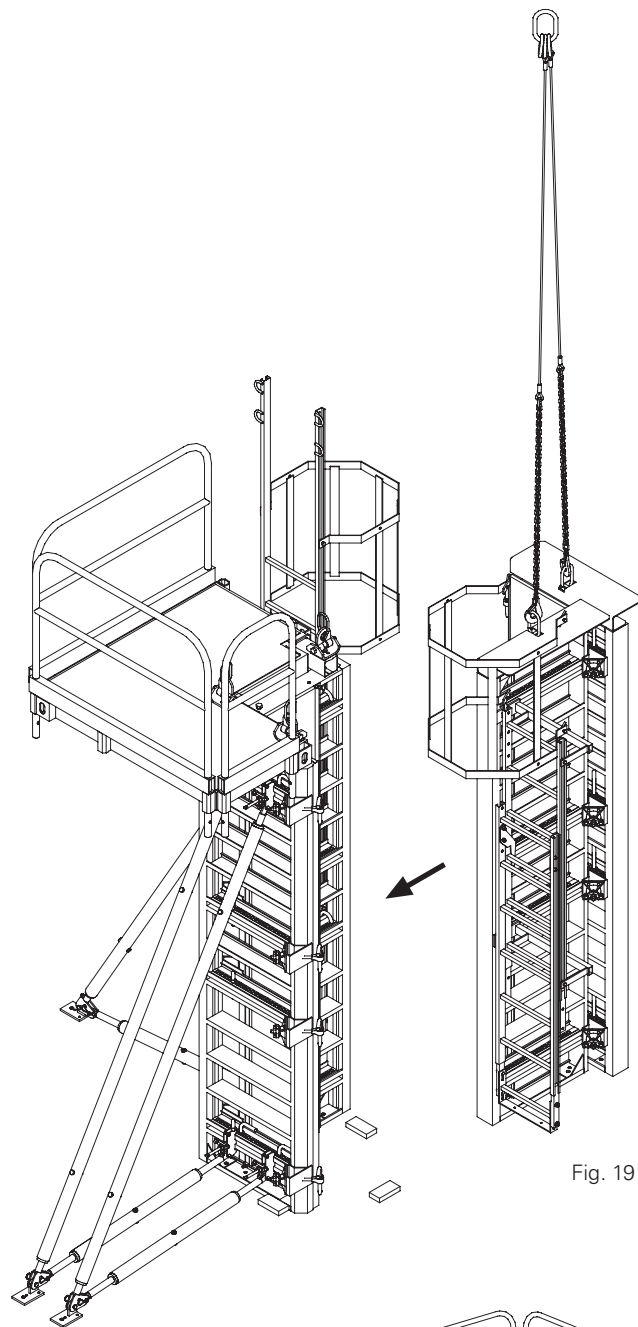

Fig. 19
7. Position this formwork half against locating boards. Fig.19